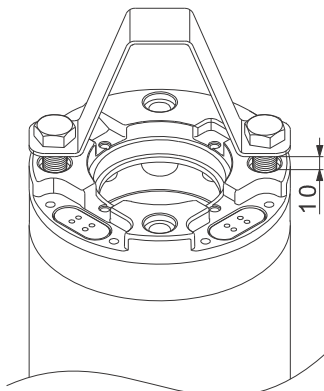

Fig. 4 Aligning bracket on motor head
1. Place the stator housing, pos1, vertical in the jaws, pos. L, and tighten.
2. Fit the aligning bracket, pos. T, over the motor head, using two of the threaded holes and the belonging screws, pos 22. Make sure that there is 10 mm gap between the bracket and the motor head. See fig. 4.